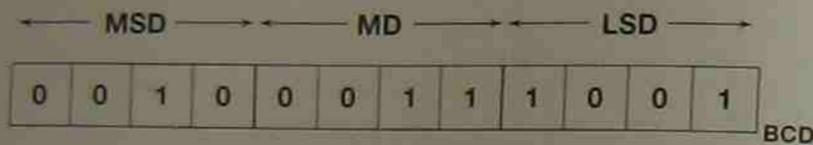

Figure 6-40 Converting a BCD Number to a Decimal Number
When only three decimal digits are to be represented, using 12 bits, they are further identified as most significant digit (MSD), middle digit (MD), and least significant digit (LSD) (Figure 6-40).